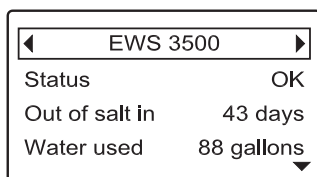

FIG. 108
1. Press the remote’s LEFT (◀) or RIGHT (▶) buttons to manually advance to the **EWS 3500** status screen (See Figure 108).